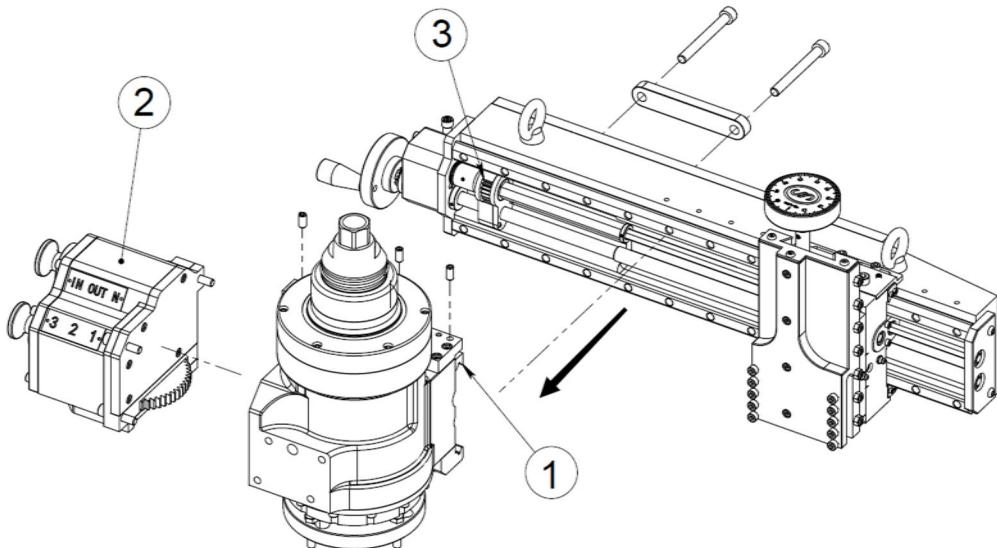

Fig. 38 Rotation arm installation
Install the slider(Fig.38 ①) to the drive hub.
Move the pickup gear (PTO / Fig.38 ③) on the rotation arm to mesh with the gearbox gear on the drive hub. When inserting the PTO into the gearbox, rotate the gears on the shaft to allow them to mesh more easily.